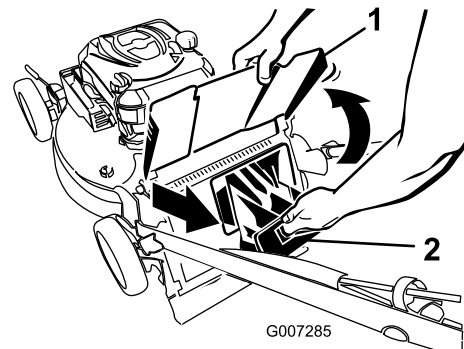

Figure 2
2. Raise and hold up the discharge deflector (Figure 2).
3. Pull out the rear discharge plug (Figure 2).